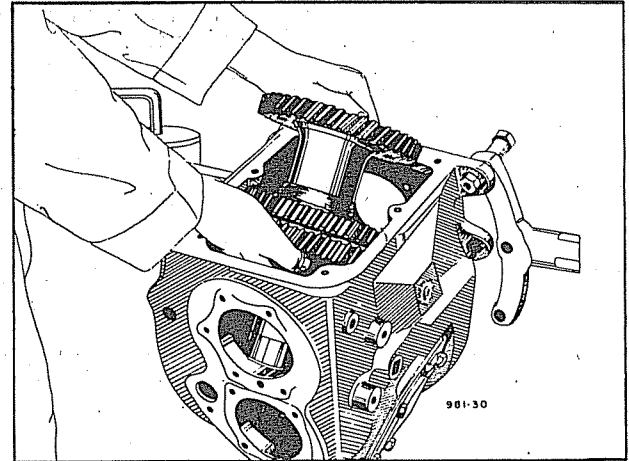

Fig. 18—Removing Countershaft from Case.
- (10) Remove the countershaft front and rear bearing retainer, slide the bearing off and lift countershaft from case. (Figure 18).
- (3) Unscrew the set screws holding the clutch shaft bearing retainer and remove the retainer shaft and bearing complete.
- (4) Remove the speedometer drive pinion assembly.
- (5) Unscrew the mainshaft rear bearing retainer set screws and remove the retainer.
- (6) Withdraw the mainshaft, at the same time take out the sliding gears through the top of the gear box casing.
- (7) Unscrew the countershaft and reverse idler gear shaft lock plate screw and remove the lock plate.
- (8) Remove the cotter pin, reverse fork and shaft.
- (9) Drive the countershaft out through the rear of the gearbox casing, using a hammer or soft drift.
- (10) The countershaft cluster gear assembly and bearings can now be lifted out through the top of the gearbox casing. (Figure 18).
- (11) Drive the reverse gear idler shaft out through the rear of the casing and remove the idler gear and bushing.